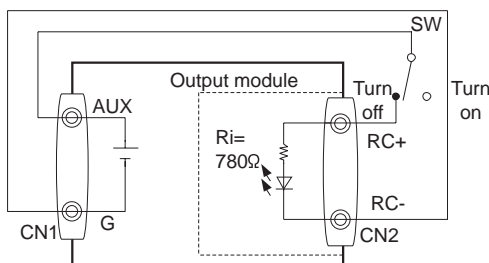

Fig. 3.3 Example of use with remote ON/OFF
- Dedicated auxiliary power (AUX) for remote ON/OFF. Auxiliary power (AUX) is built-in for control of remote ON/OFF. Auxiliary power (AUX) is isolated from input, output, and FG. Remote ON/OFF connection methods with AUX are shown in Fig. 3.3.
- ① The output stops when voltage (4.5 - 12.5V) is applied to RC+.
- ② The built-in fan does not stop even if the output is turned OFF using remote ON/OFF.
- ③ If the output has been turned OFF using remote ON/OFF, the LV alarm signal will be generated (except modules, S, T, and U).
- ④ This function operates on each output module independently.